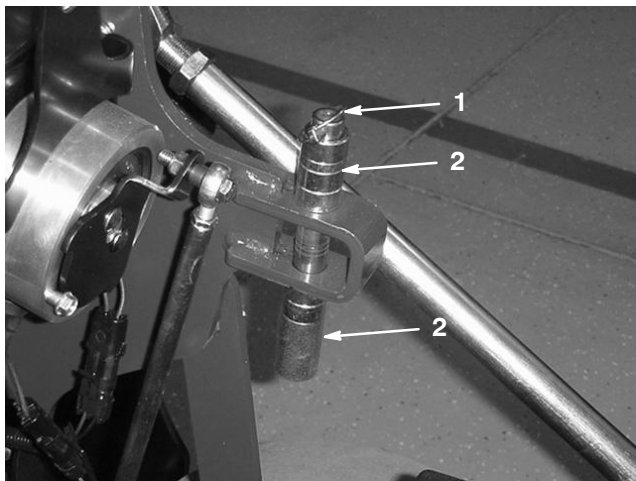

Figure 29
1. Remove the lynch pin retaining the spacers and depth pins (Fig. 29).